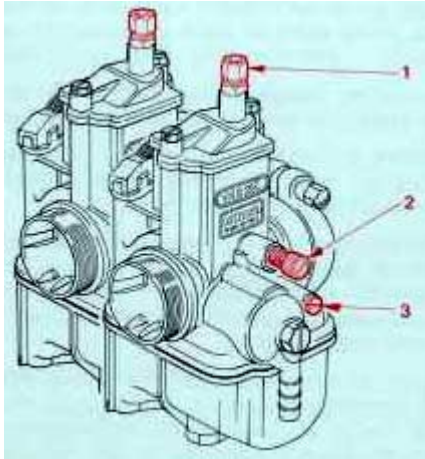
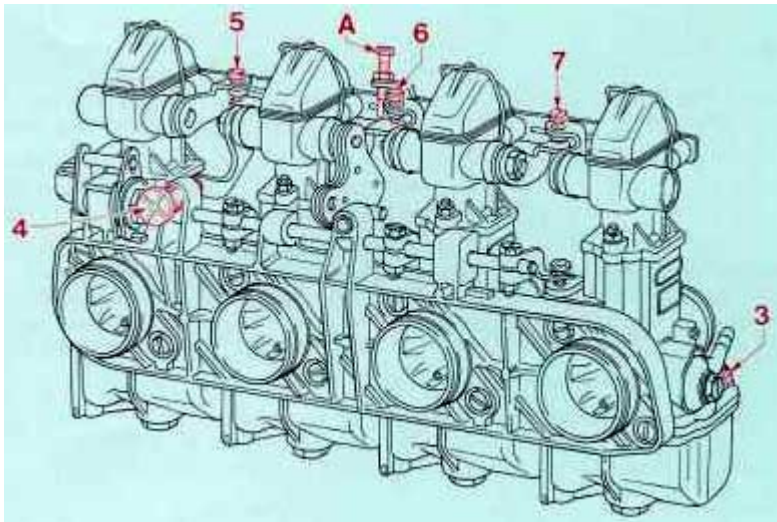

fig. 31
fig. 32
1. with Carburetors **separated** (figure 31) and therefore with a throttle cable each.
2. with Carburetors **mounted together** in a rigid group by means of a suitable flange (figure 32) and with a single control cable.
Make sure, both for independent (figure 31) and grouped Carburetors (figure 32), that each throttle cable has about 1 mm free play at idle.
Start the engine and when it has reached normal running temperature, adjust the idle speed to about 1000 rpm using the throttle adjusting screw (2) in figure 31 or screw (4) in figure 32.
for independent Carburetors (figure 31) align the mercury column levels using the throttle adjusting screws (2) on each
for Carburetor s mounted together in a group (figure 32) align the mercury column levels with the level of the Carburetor connected directly to the throttle control, adjusting the balance- adjusting screws (5), (6), (7).
Recheck the alignment of the mercury columns and then reset the engine to the desired idle speed using the throttle adjusting screw (2) in figure 31 or screw (4) in figure 32.
For independent Carburetors (figure 31) check that the alignment of the mercury columns is unaffected by slightly opening the throttle. If it is, adjust the individual cable-adjuster screws (1) to correct this.